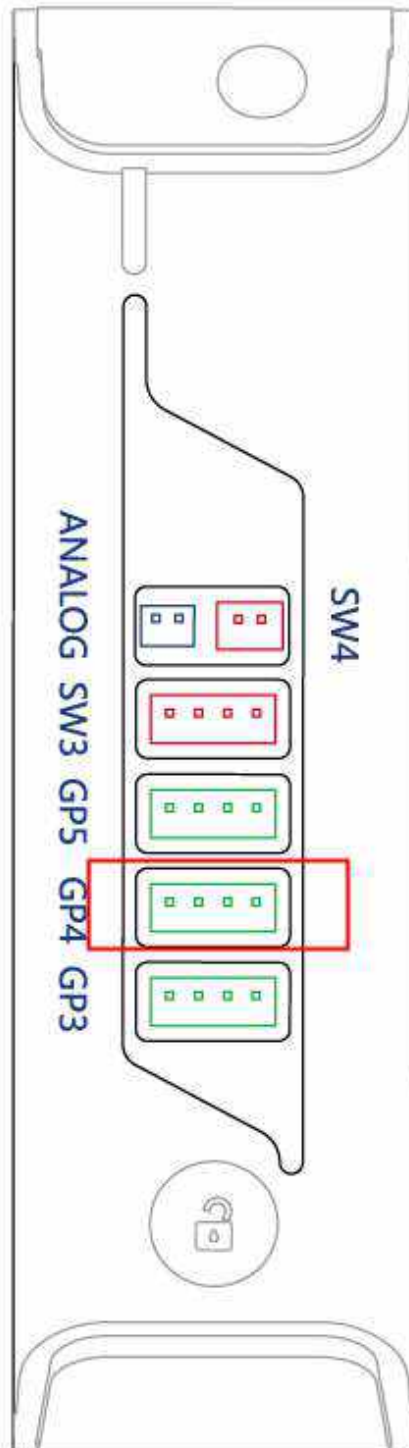

Figure 5.156 Insert the cable of the auto-levelling
Step 3 Insert the cable of the auto-levelling tool to the interface **2** on the Forearm, as shown in Figure 5.156.